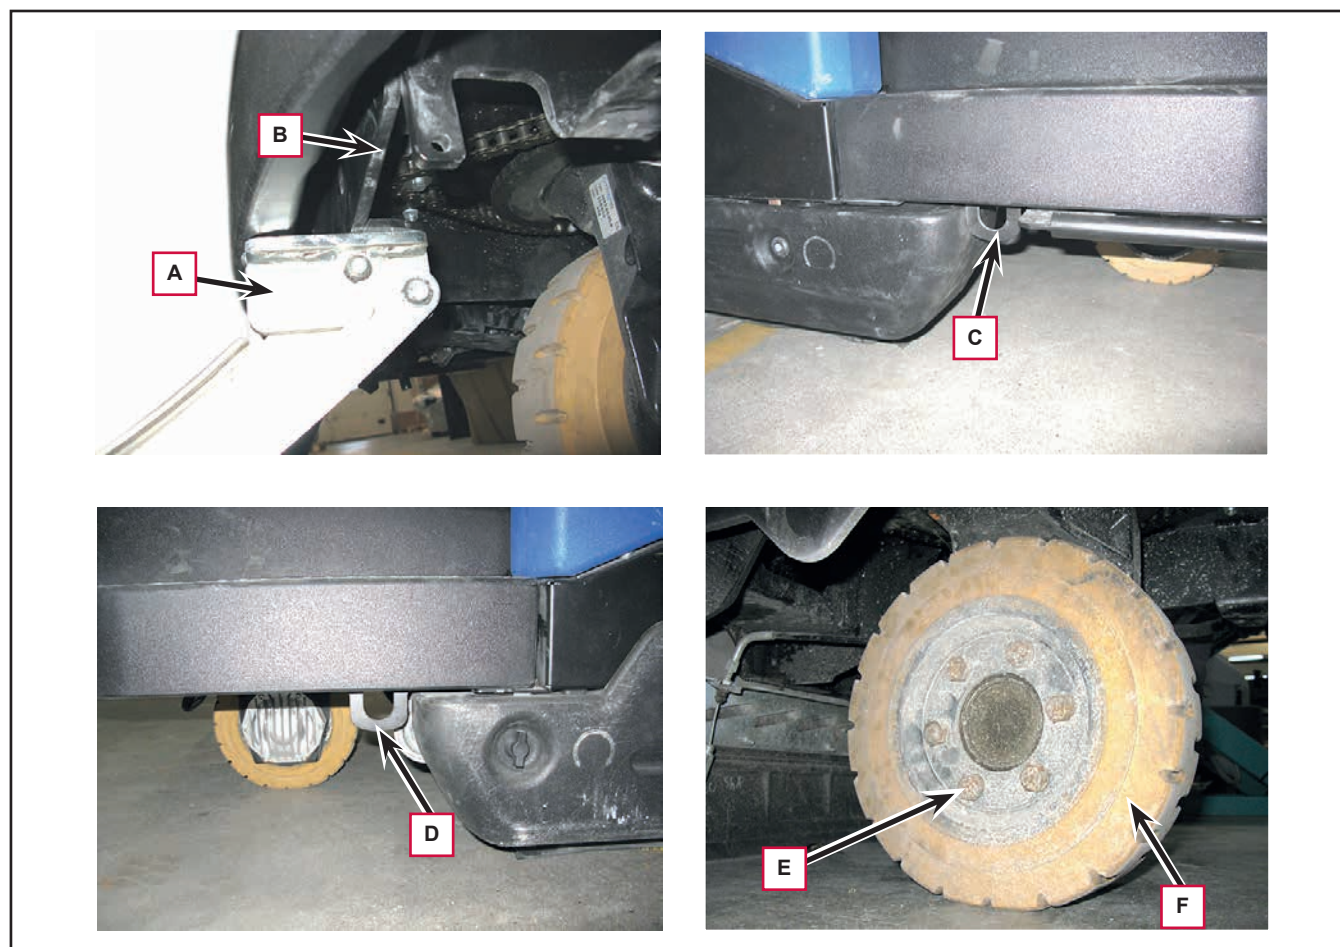

Figure 6
3. Position a suitable lifting device (A, Figure 6) at the centre of the front section of the machine, on the chassis bracket (H), then raise the front of the machine by a few centimeters until the driving wheel can be removed.
4. For safety purposes, to prevent accidental lowering of the machine, apply two suitable spacers under the right (C) and left (D) side brackets.
5. Unscrew the six screws (E).
6. Remove the wheel (F).